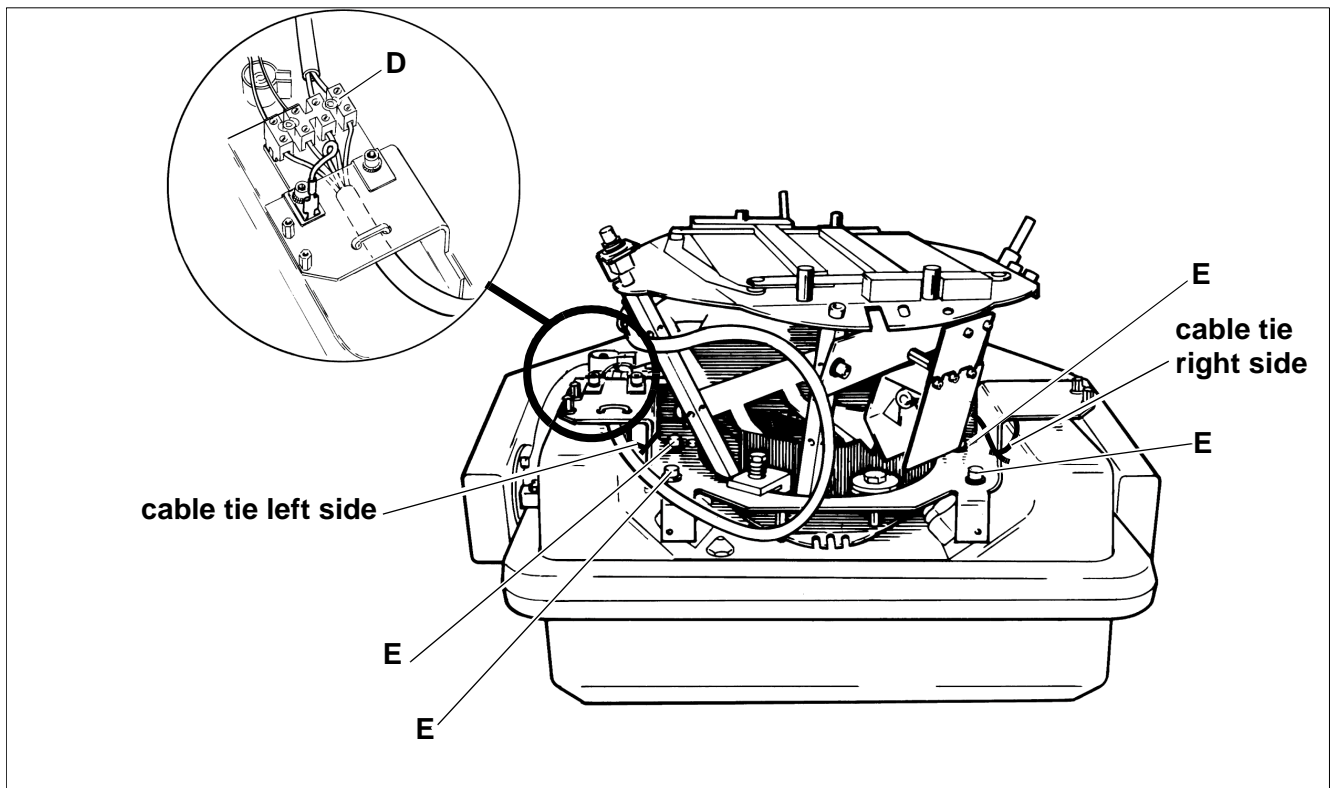

Fig. 8
- Disconnect the cable to the connection terminal board "D" (Fig. 8).
- If there are cable ties, cut them (Fig. 8).
- Remove the collimator by loosening the four screws "E" (Fig. 8). Reserve the hardware.
- Replace the cable ties (Fig. 8). The cable ties have to be mounted exactly as shown in Fig. 9 and Fig. 10. The cable ties should not be tightened hard. Fig. 9 and Fig. 10 shows how the cable tie on the right side is mounted. Repeat for the left side, but with the cable tie mirror-inverted.